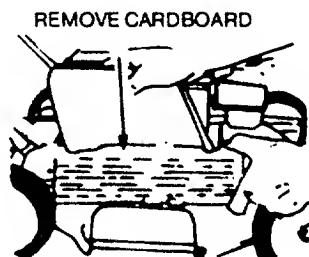

FIGURE 1.
5. The chute deflector on your mower is held in an upright position by a pad for shipping purposes only. This shipping pad must be removed and discarded before the mower is put into operation. See figure 1.